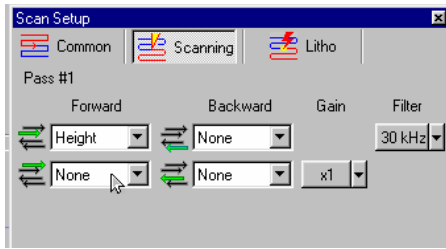

Fig. 4-49
- Click the mouse button on the “signal input field” of the second channel (Fig. 4-49);